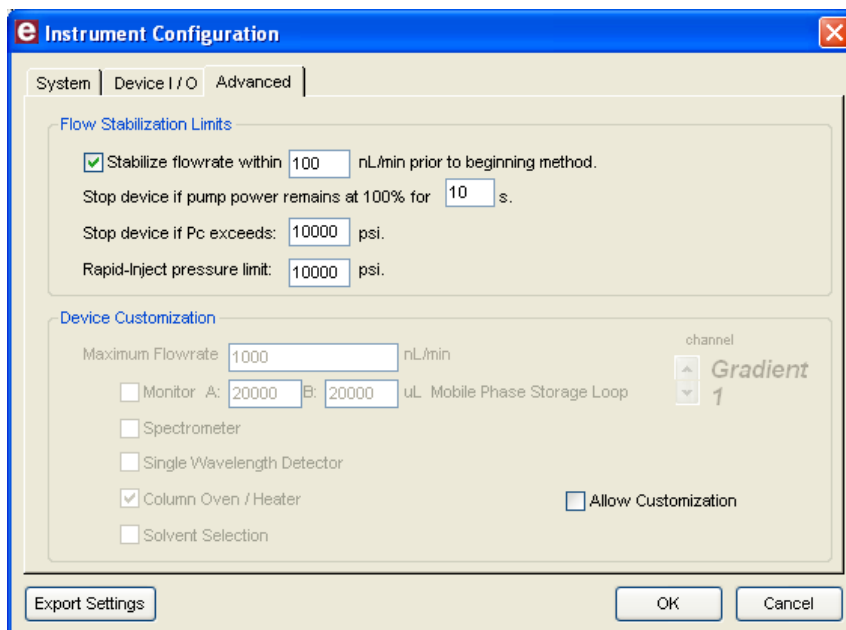

Figure 2-15 Instrument Configuration Dialog—Advanced Tab
14. Click the **Advanced** tab (Figure 2-15) to set the **Flow Stabilization Limits** which specify the degree of flow rate stability that is required before a gradient will begin.
15. The **Stop device if Pc exceeds** field (Figure 2-15) allows for the specification of a maximum system pressure.